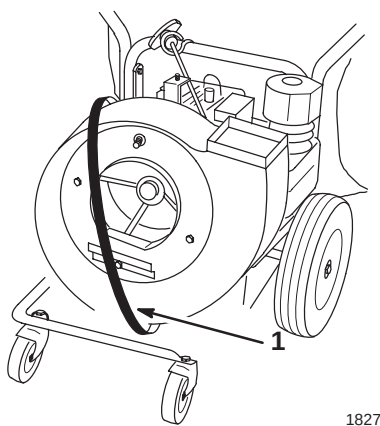

Figure 27
10. Route the new belt around the blower housing (Fig. 27).